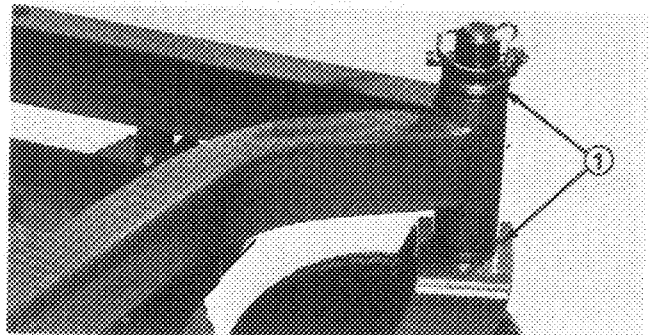

Figure 10
4. Insert pin punch into top or bottom of mounting tube and drive bushing out of tube (Fig. 10).